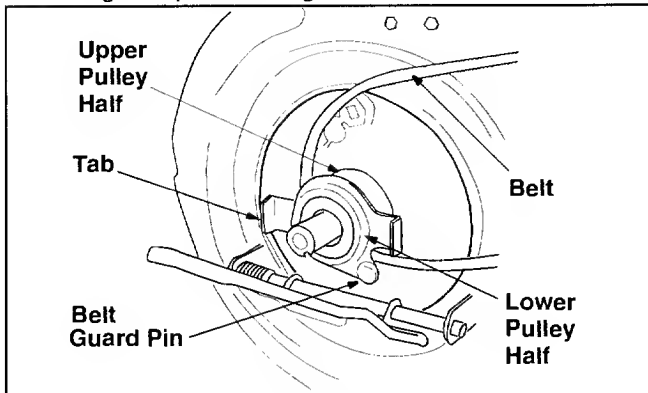

Figure 21
- Place the belt between the two pulley halves on the crankshaft. Make sure to route the belt inside the belt guard pin. See Figure 21.